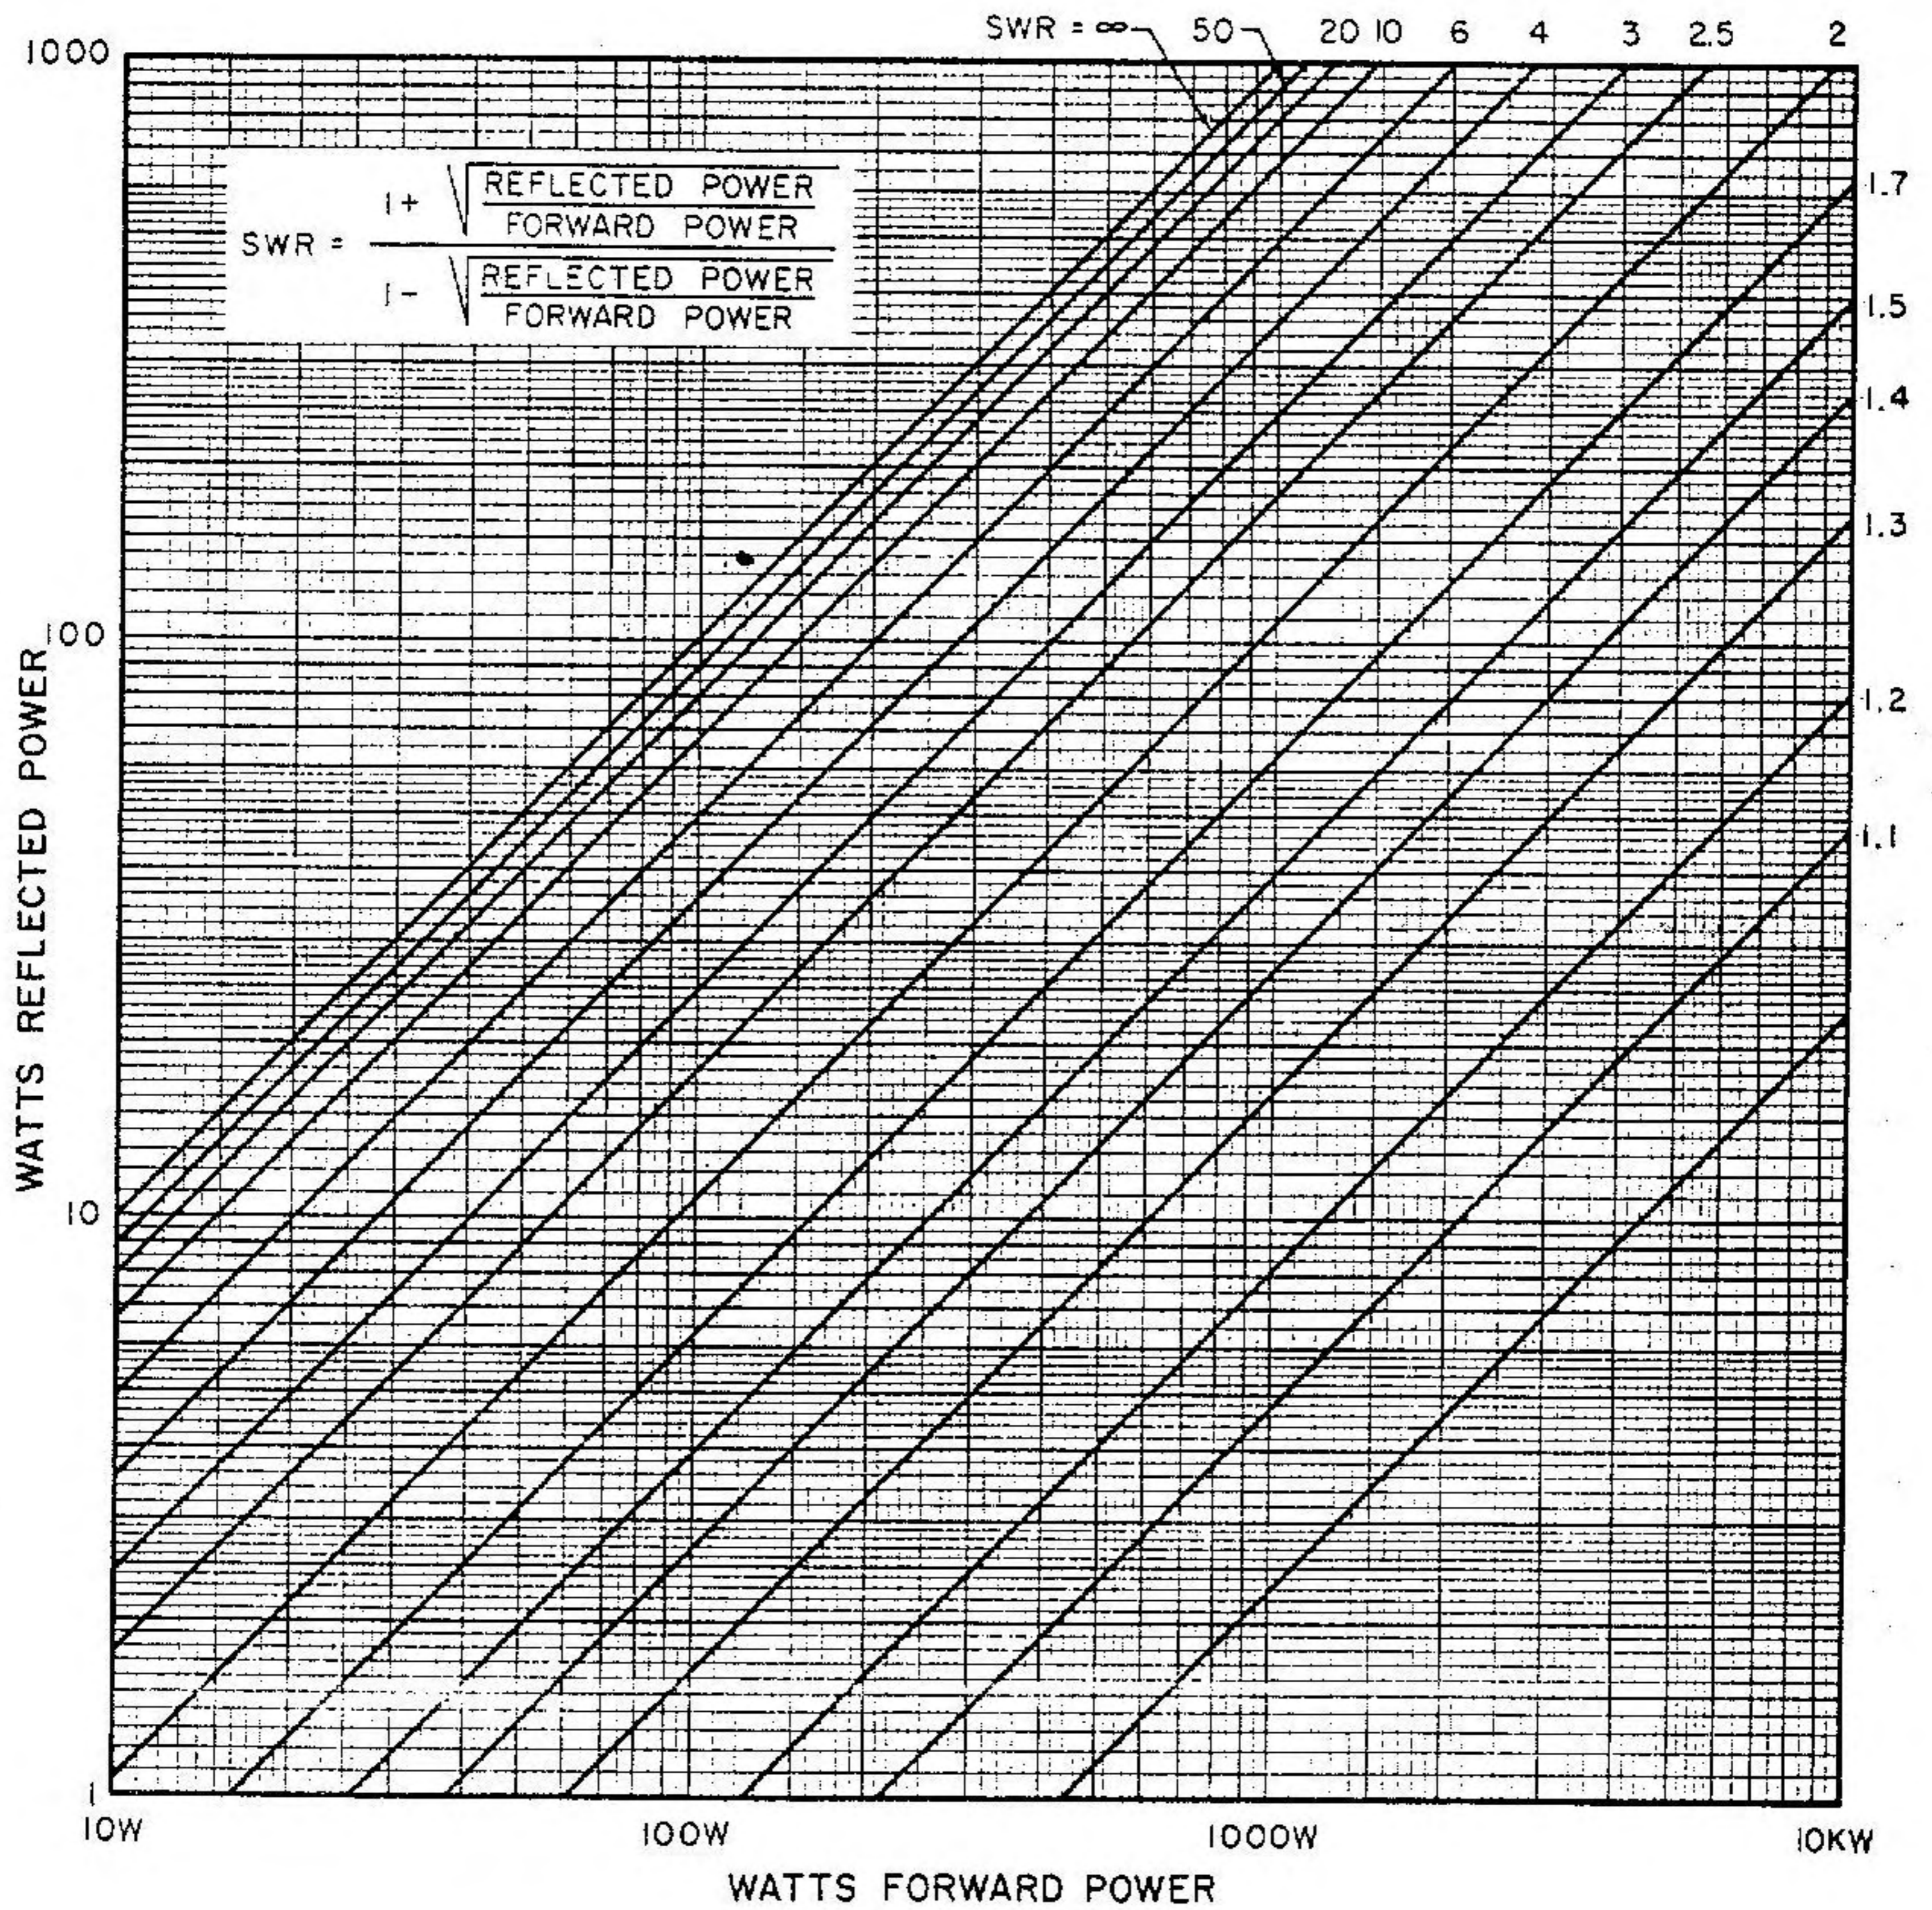

Figure 3-1. Relationship of SWR to Incident and Reflected Power
6. Determine the VSWR from the chart, figure 3-1. VSWR should not exceed 1.3 to 1.
9. Operate the r-f power meter switch to the REFLECTED position. Observe and record the reflected power and refer to chart (figure 3-1) to determine VSWR.